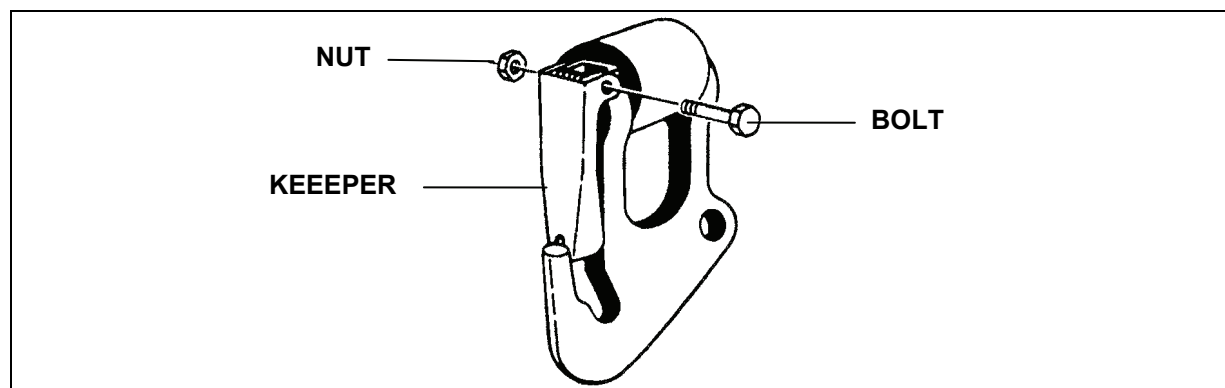

Figure 6-18. Bolt and Nut Removed from Grabhook
- Using a pin punch and hammer, drive out the roll pin. If the roll pin has been replaced by a bolt and nut, unscrew the nut and remove the bolt (Figure 6-18).